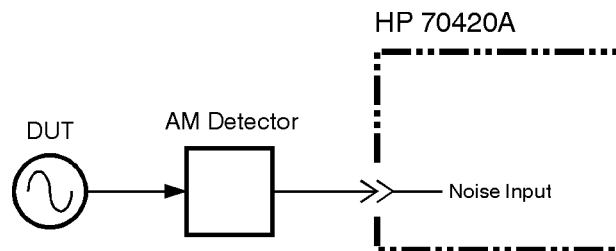

Figure 12-6 User Entry of Phase Detector Constant AM Noise Measurement Setup Method 1, Example 1
- 1 Using information shown in Figure 12-6 and Figure 12-7, Connect the circuit and tighten all connections. If the Agilent 70420A Option 001 or Agilent 70427A is available, use one of the connection diagrams described in “AM Noise Measurement Block Diagrams” on page 12-3.